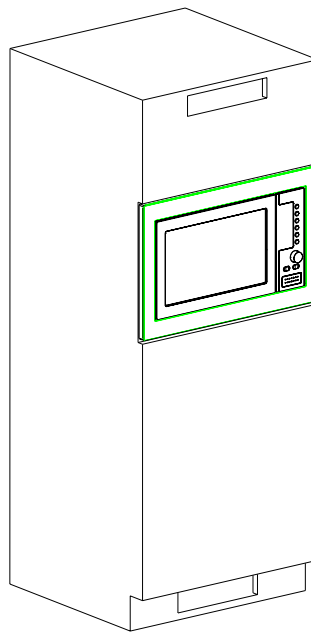

Fig.5
e)Final assembly as shown in Fig.5